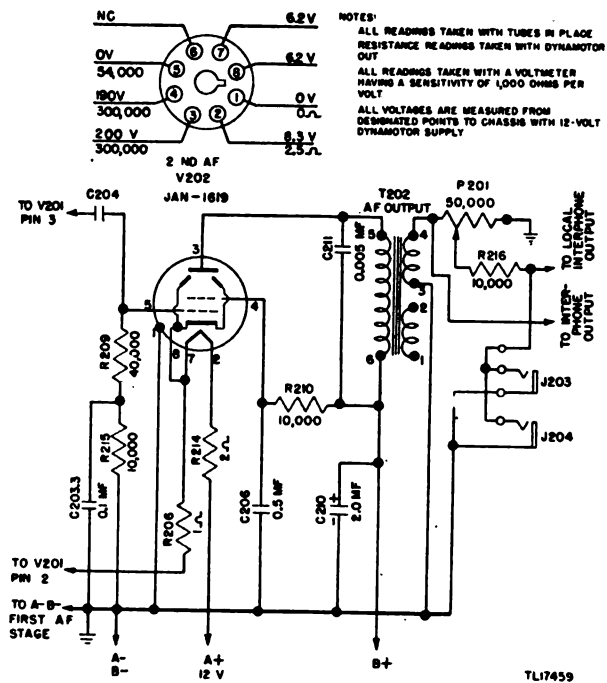

Figure 19. Interphone Amplifier BC-605-(*), second a-f stage schematic diagram.
22. Parts List for Second A-f Amplifier, V202 (fig. 19)